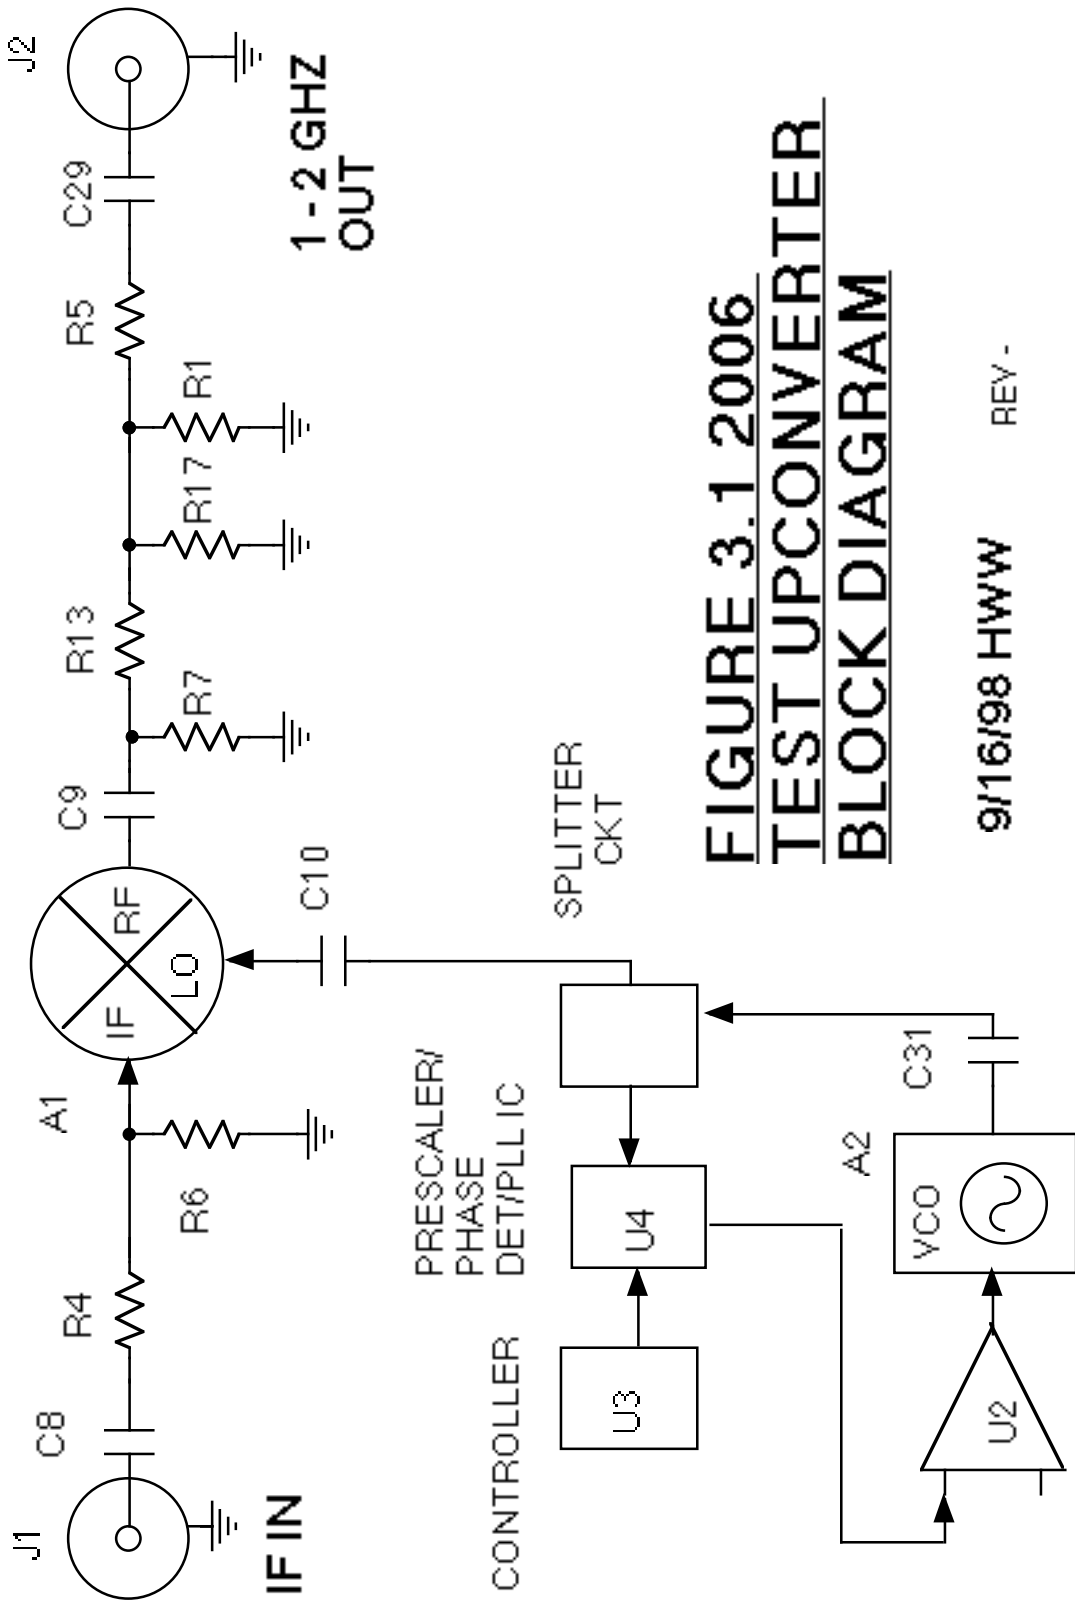

FIGURE 3.1 2006
3.1 Block Diagram Description - 2006-01 (Figure 3.1) - The 70 or 140 MHz input (J1) signal first goes to capacitor C8 and then to the 75 to 50 ohm matching attenuator, R4, R6. The signal then goes to mixer A1 which receives the LO generated by VCO A2 and provides the LO \pm IF and LO unfiltered output. This signal next goes through 6 dB attenuator R7, R13, R17 and then to the 50 to 75 ohm matching attenuator R1, R5. Commands for the phase lock loop IC, U4, are provided serially from microcontroller U3 which determines the frequency of the LO. Crystal oscillator A3 provides the 25 MHz reference frequency for the synthesizer U4. Q1 provides low noise regulated voltages for PLL IC U4 and loop amplifier U2.